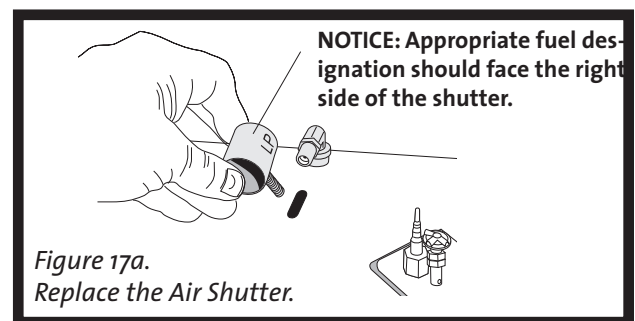

Figure 17a. Replace the Air Shutter.
10. Replace the Air Shutter over the burner orifice. Note that NG/LP designations are stamped on the sides of the shutter. Orient the shutter so that the appropriate fuel designation is on the right, facing the pilot assembly. See fig. 17a.